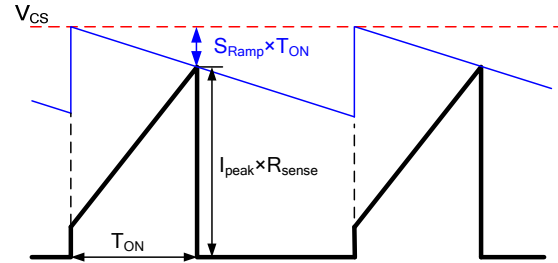

Figure 8: Peak Current Control Waveform with Slope Compensation
Figure 8 shows the peak current control waveform with slope compensation. When the sum of the sense resistor voltage and the slope compensation voltage reaches the peak current limit (V_{CS}), the HF920A turns off the internal MOSFET. The V_{CS} equals the maximum current set point (V_{CSL}) under full load, considering the margin; use $0.95 \times V_{\text{CSL}}$ for designing. The voltage on the sense resistor is given using Equation (13):